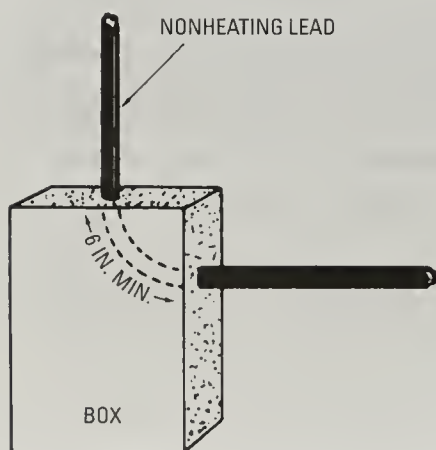

Figure 5-8 Installing nonheating leads in a junction box.
(B) *Leads in Junction Box.* Where nonheating leads terminate in a junction box, there shall be not less than 6 inches of nonheating leads free within the junction box. Also, the markings of the leads shall be visible in the junction box. This is highly important so that the heating cable can be identified (Figure 5-8).
(C) *Excess Leads.* Excess leads of heating cables shall not be cut but shall be secured to the underside of the ceiling and embedded in plaster or other approved material, leaving only a length sufficient to reach the junction box with not less than 6 inches (152 mm) of free lead within the box. [See Figure 5-8.]